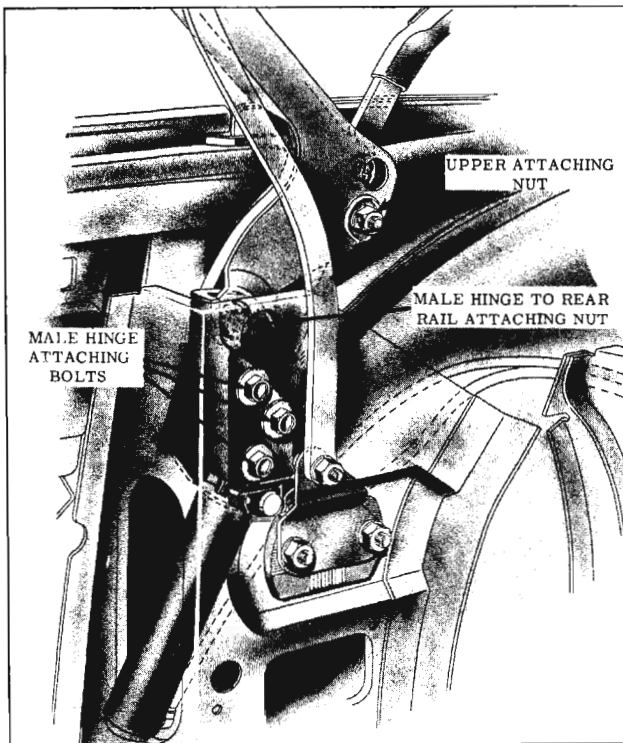

Fig. 16-337 Lift Cylinder Removal
3. With top in raised position, remove attaching nut, bolt, bushing and washer from upper end of cylinder. (Fig. 16-337)